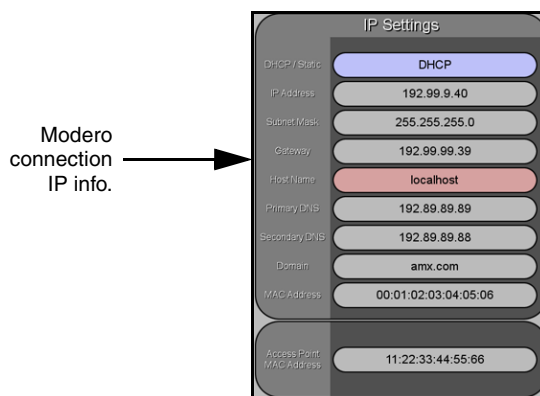

FIG. 79 Wireless Settings page (IP Settings section)
3. Press the **Wireless Settings** button (located on the lower-left) to open the Wireless Settings page. Wireless communication is set within the IP Settings section of this page (FIG. 79).